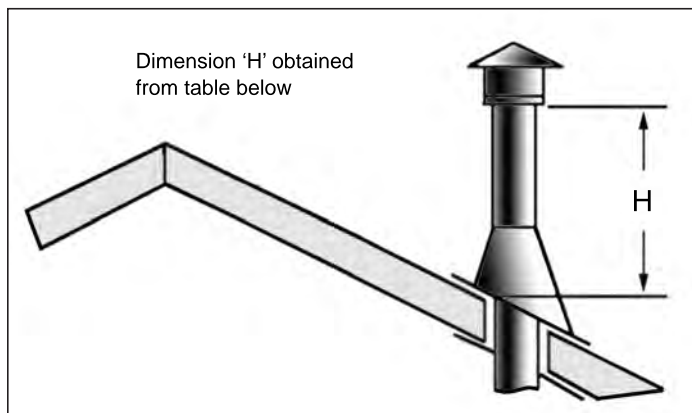

**Figure 28. Vertical Vent Termination**
- STEP 6.** Once the pipe sections have been joined, and run up through the hole in the roof, slip an elbow strap over the exposed sections, bend the support straps outwards, and push the elbow strap down to the roof level, as shown in Figure 28. Tighten the clamp around the pipe section. Use a level to make sure the pipe is truly vertical. With roofing nails, secure the support straps to the roof. Seal the nails holes heads with non-hardening mastic. Trim the excess length of the support straps that extend out beyond the edge of the flashing.
- STEP 9.** Slip the storm collar over the pipe, and push it down to the top of the roof flashing as shown in Figure 28. Use the non-hardening sealant around the joint between the pipe and the storm collar.